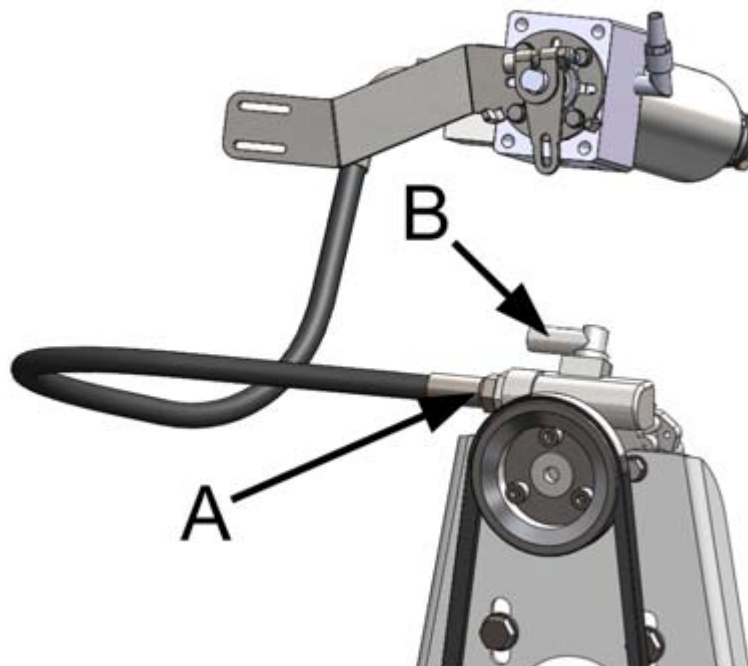

Figure 50. Hoses of the hydraulic pump
1. Remove the hydraulic pump pressure hose (figure 50, point A) and suction hose (figure 50, point B) and drain the oil into a container.
5. Install the pressure hose (figure 50, point A) and return hose (figure 50, point B).